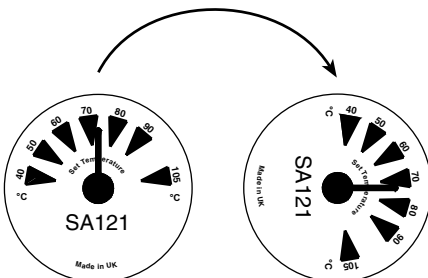

Fig. 4
In some instances it may be necessary to rotate the scale to make the set temperature more easily read. In such cases the following procedure should be adopted making reference to Figure 2 and Figure 4 except where stated:-
1. Remove the tamper-proof plug (6) and use a suitable screwdriver to set the indicator (3) to the midway point (1).
2. Remove the transparent cover (2).
3. Remove the indicator (3).
4. Remove the scale (4) from the indicator and relocate to the desired position i.e. Figure 4.
5. Replace the indicator (3) to the midway point of the scale (1).
6. Replace the transparent cover (2).